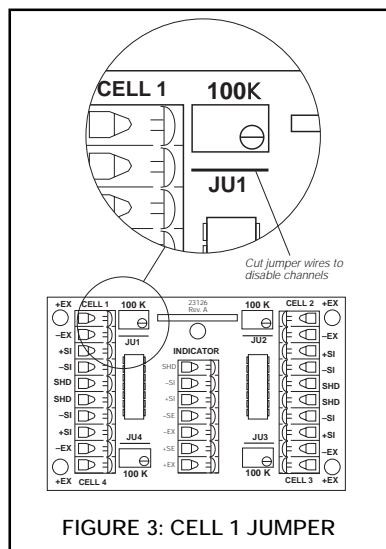

FIGURE 3: CELL 1 JUMPER
2. Make sure jumpers corresponding to any unused terminals have been cut to disable use of these load cells. See Figure 3.
If less than four load cells are used, cut the jumper traces on the unused terminals. This will disable use of these terminals. See Figure 3 on next page.